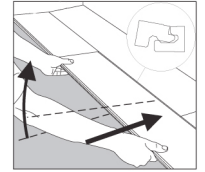

Figure 2
2. Position the first board in place by angling it up slightly, pushing forward and interlocking the side tongue. (Figure 2) The long side of the plank **MUST BE SNUG** against the adjoining plank with **NO GAPPING**. There will be a slight click when the long side is fully engaged and lowered into place.